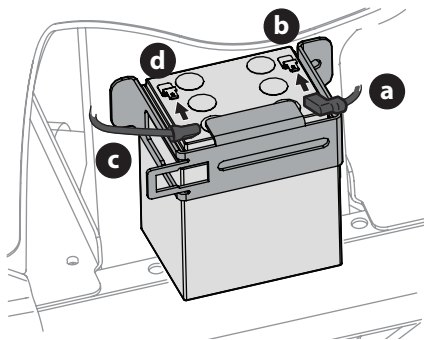

Figure 16
1. Plug the red cable (a) into the positive battery terminal (b) (Figure 16 on page 13).
2. Plug the black cable (c) into the negative battery terminal (d) (Figure 16 on page 13).